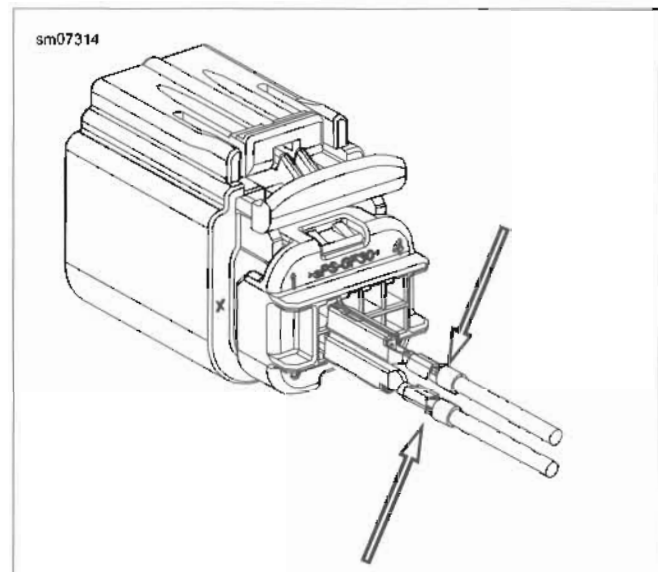

Figure A-72. Socket Terminal Orientation: Crimp Open Side
2. See Figure A-72. Orient the open side of the crimp to the lower or the upper terminal row.